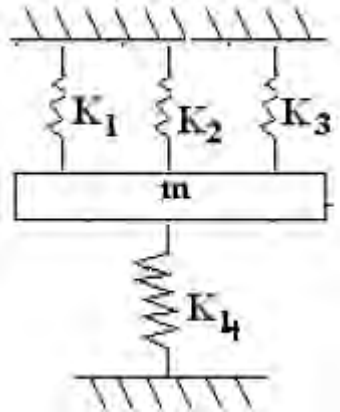

Figure 4
8. Find the frequency of the spring shown in figure 4: [16]